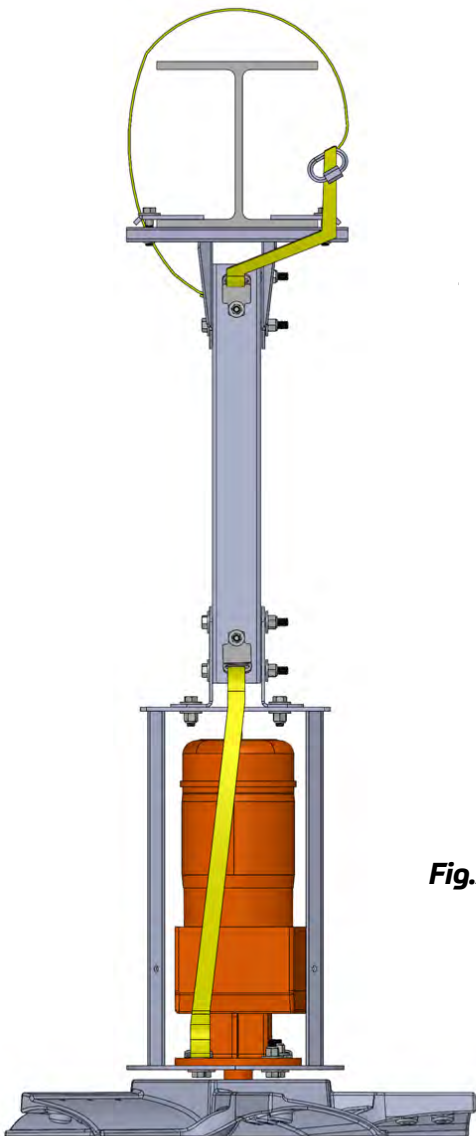

Fig. 11
3. Position the Upper Z-Tech™ SS straps per Fig. 11, fasten the loops with the connecting shackle or 3/8" quick link provided.
3. Position the safety cable as per Fig. 11. (page #11) and secure with the connecting shackle.